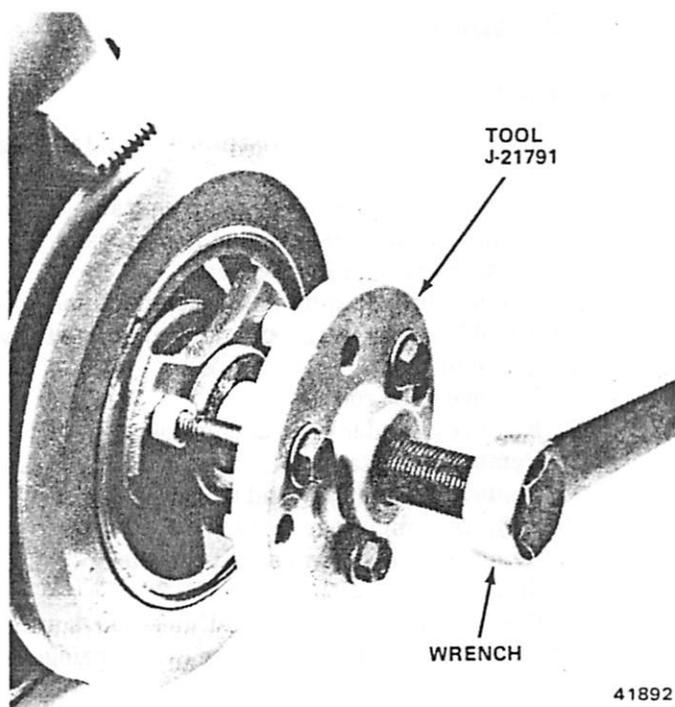

Fig. 1B-97 Vibration Damper Removal
(1) Remove drive belt(s).
(2) Remove three retaining bolts and separate vibration damper pulley from vibration damper.
(3) Remove vibration damper retaining screw and washer.
(4) Use Vibration Damper Remover Tool J-21791 to remove damper from crankshaft (fig. 1B-97).